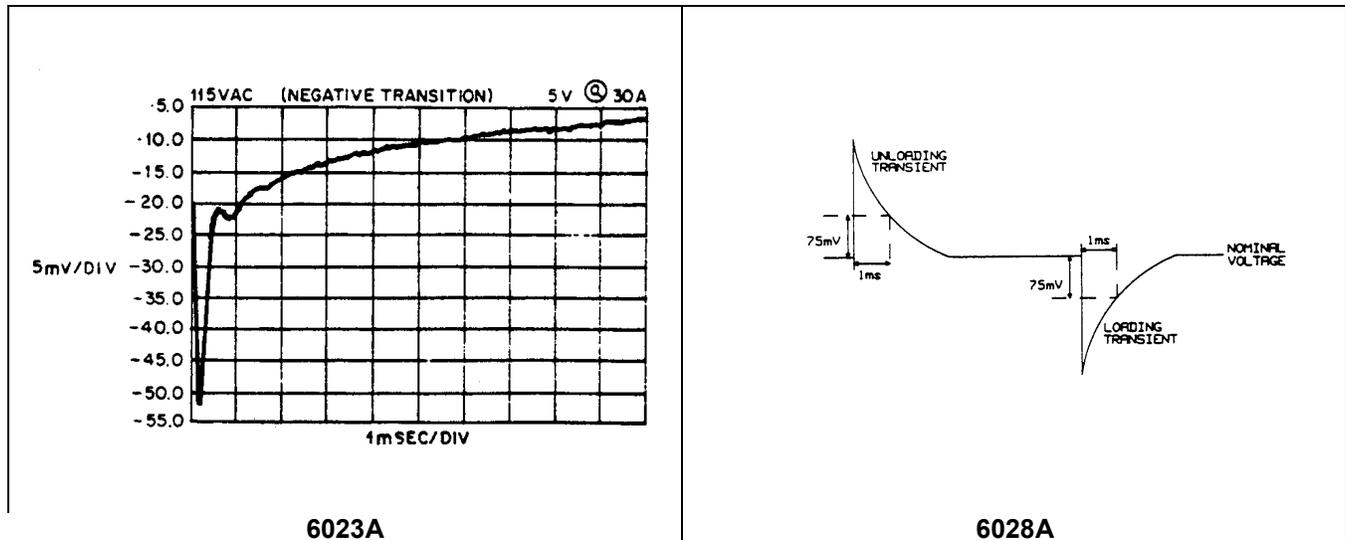

Figure 2-7. Load Transient Recovery Waveform
- f. Adjust the oscilloscope to display transients as in Figure 2-7.